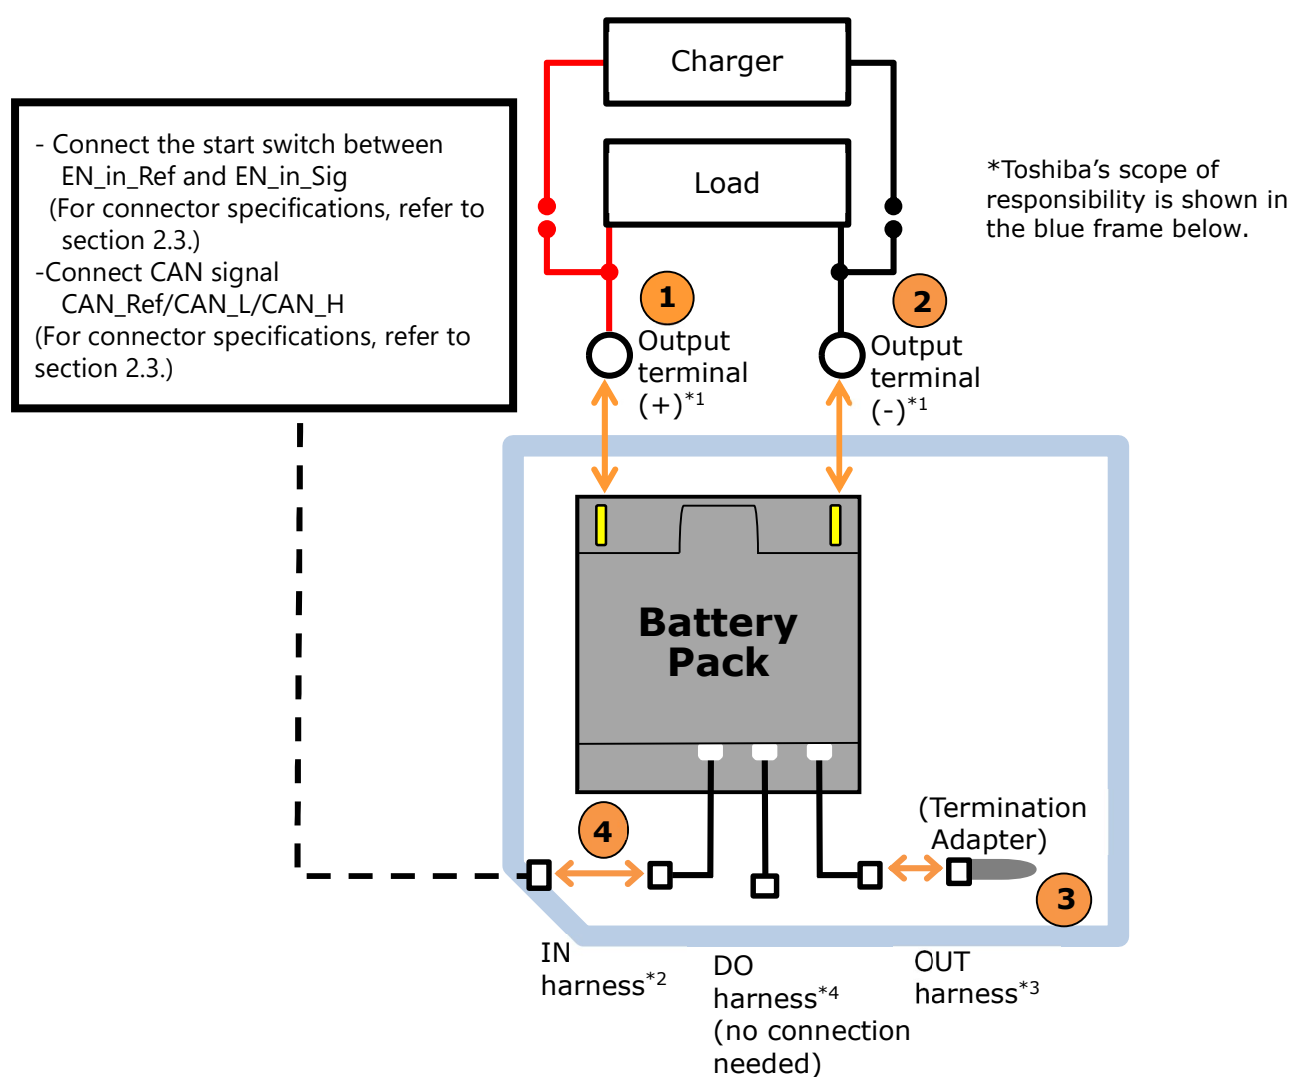

Figure 6-2 Connection Configuration with Only CAN Communication
Please connect each device from ① to ④ in order as shown in Figure 6-2.